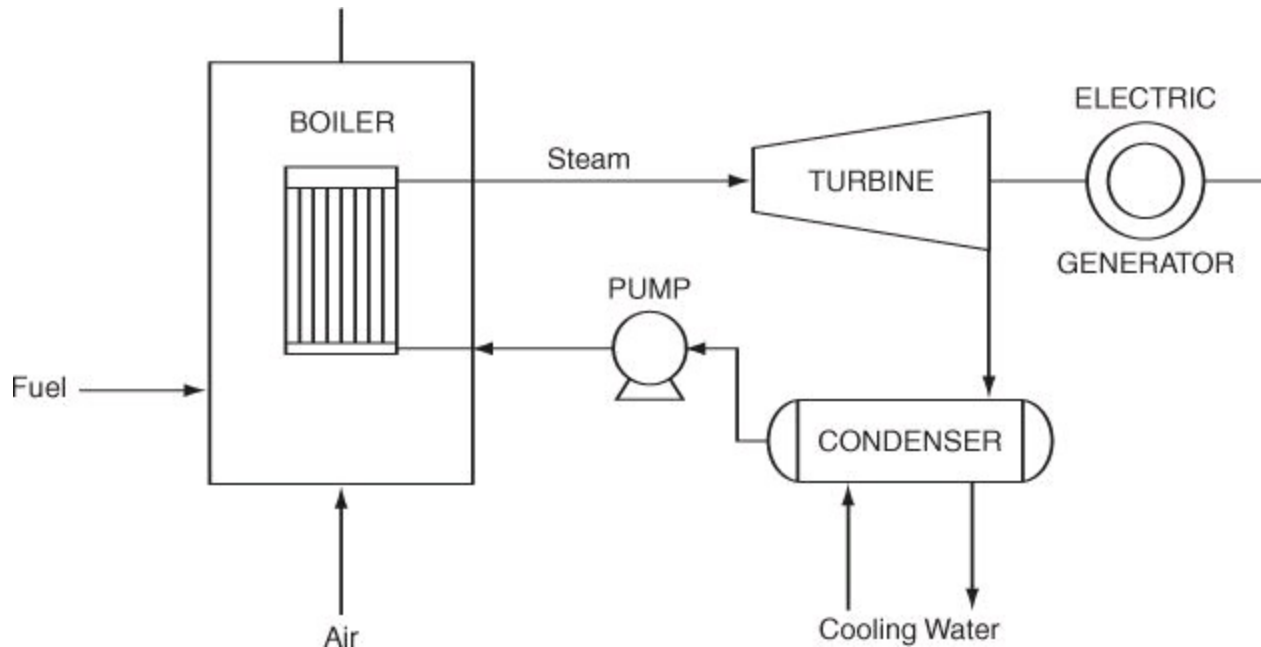

Figure P14.10
*14.10. Three efficiencies are commonly defined for a power plant such as the one shown in Figure P14.10:
Calculate these efficiencies based on the following data collected for 1 hr of operation of the plant in Figure P14.10: